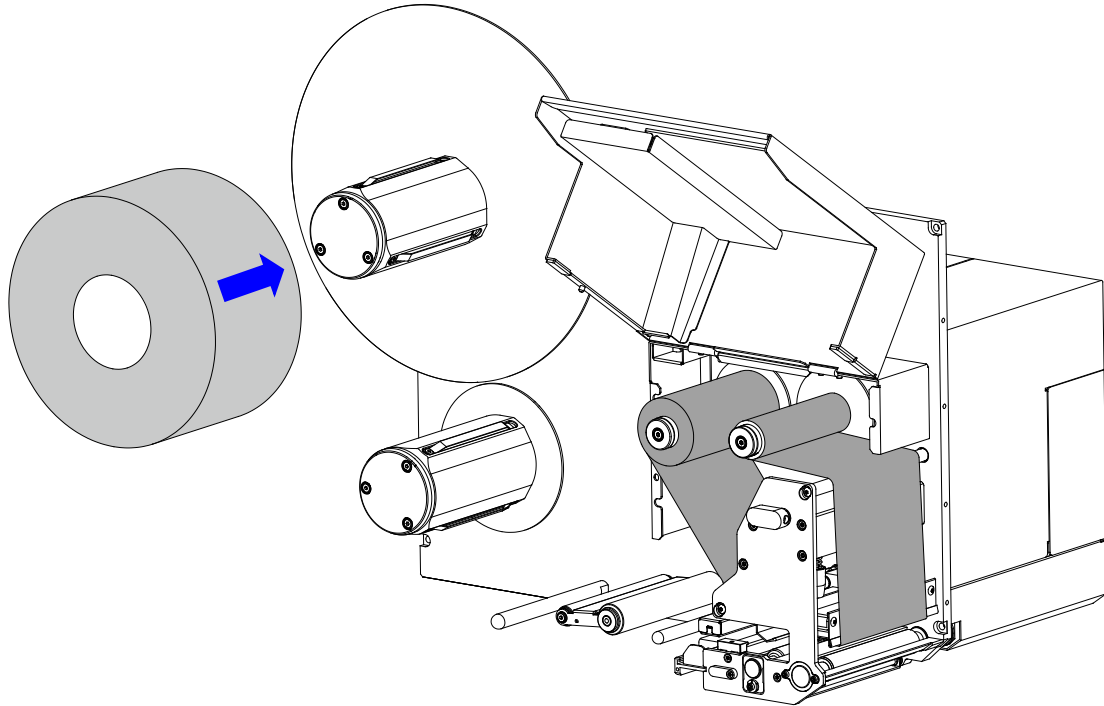

Figure 2-20 Load the Media Roll
1. Load a media roll onto the Media Spindle, make sure that the media roll is firmly pushed against the Stop Plate. As shown in Figure 2-20.